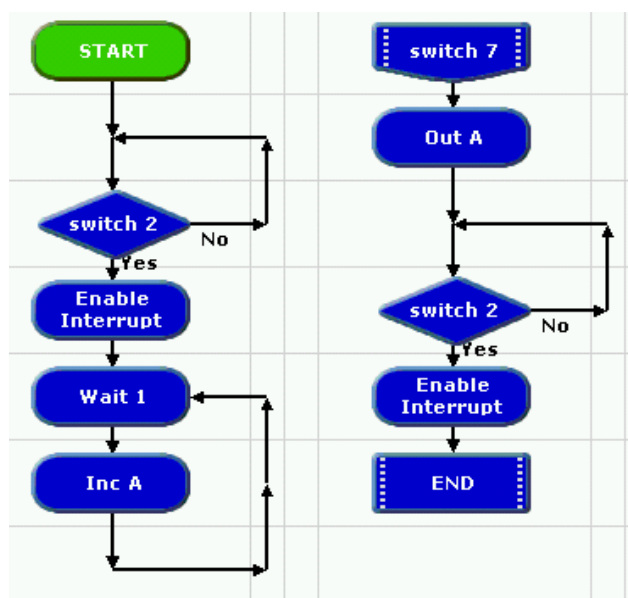

Fig 15. Simple stopwatch using an Interrupt to pause the timing, and displaying time elapsed in binary form.
The program shown in Fig 15 turns the T-board into a simple stopwatch. Timing begins when you press switch 2. Timing is done by repeating the Inc A command every second. You can press switch 7 at any time to pause the timing and display the number of seconds elapsed in binary form using all eight LEDs on the T-board. Timing restarts (from the point at which you stopped it) when you press switch 2 again.
1. Build the program shown in Fig 15. Test run it; then download it and try it in the T-board.